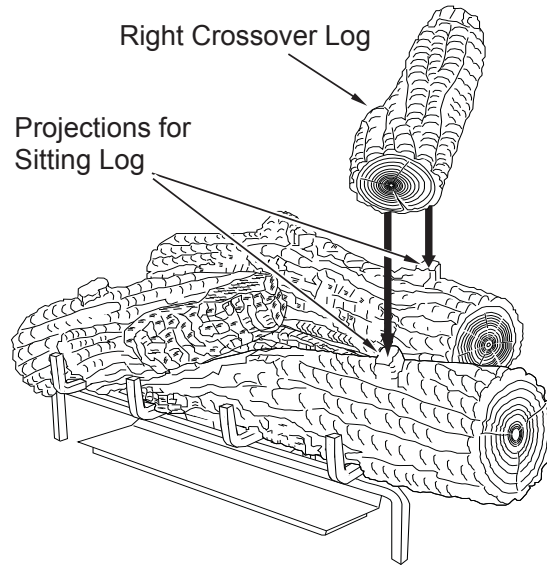

Figure 38 - Installing Right Crossover Log
5. Place the right crossover log onto the rear log and the right front log as shown in **Figure 38**. The right crossover log has notches in the bottom that will line up with the projections on the rear log and the right front log.